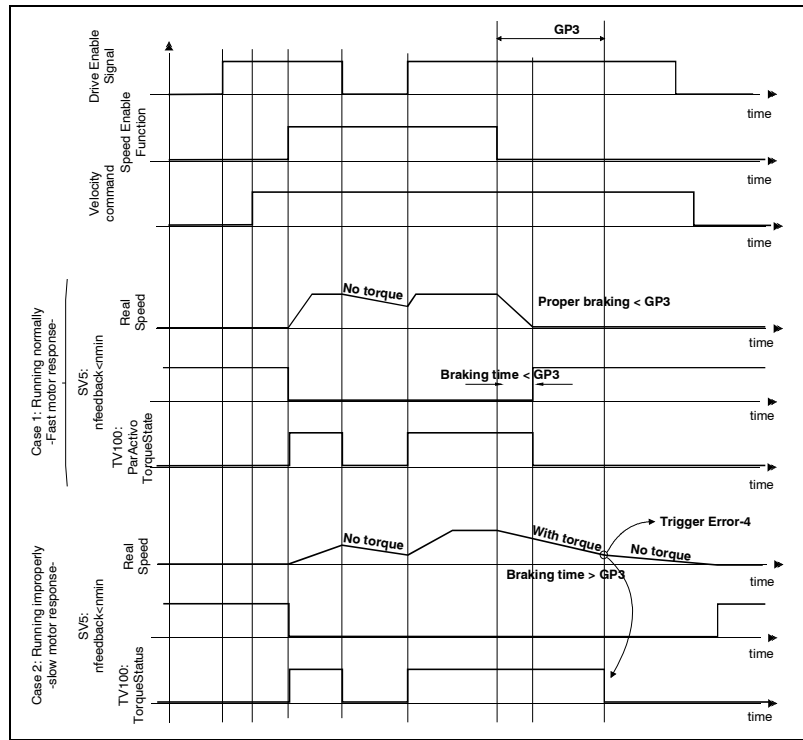

FIGURE H3.114
2. The motor will respond to all analog command variations only while both inputs (Drive Enable and Speed Enable) are at 24 V DC. If any of them is deactivated, the following will happen. See the operation modes in **FIGURE H3.114**.